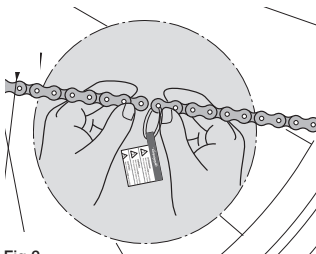

Fig.2
**IMPORTANT!** Perform all of the following operations and remove extra links from the side of the chain opposite the external link, which is identified by the plastic band and the adhesive "WARNING!" label (Fig. 2).